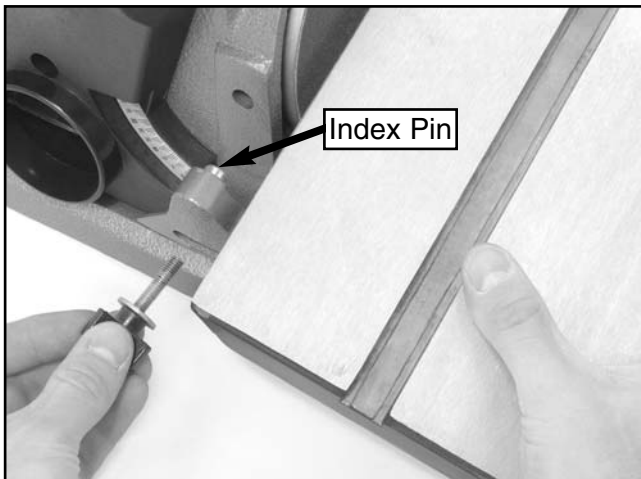

Figure 6. Inserting the index pin into the base.
4. Insert the index pin shown in **Figure 6** into the upper hole on the base and tighten the knob.